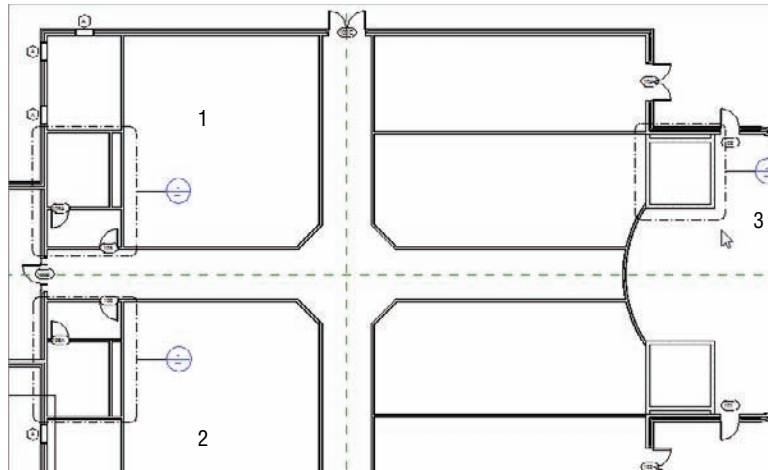

FIGURE 3.68 The plan showing the three typical callouts
13. Create one more callout around the elevator shaft in the east wing, as shown in Figure 3.68.